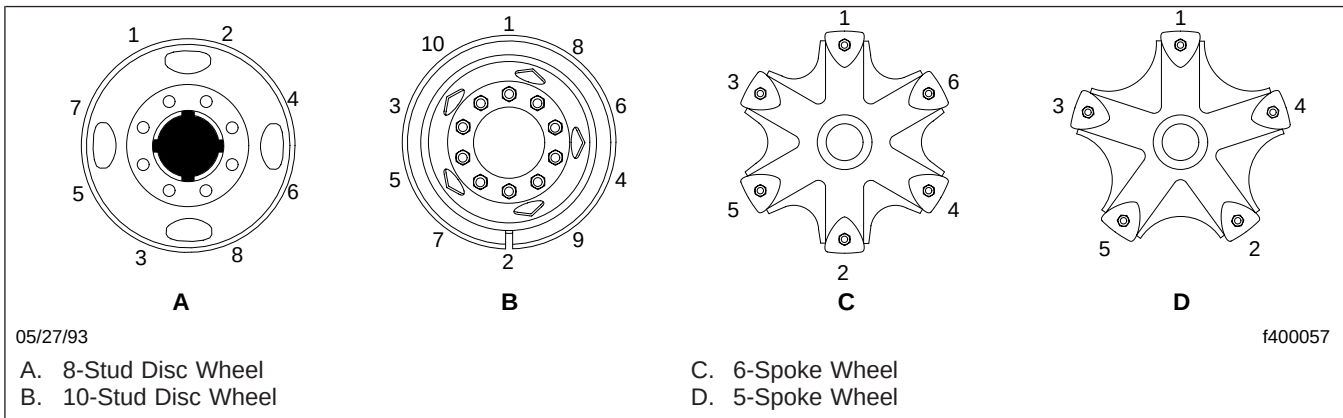

Fig. 1, Wheel Nut and Rim Nut Tightening Sequence
See Table 1, Table 2, or Table 3 for wheel nut torque specifications, and see Fig. 1 for the tightening sequence.
- Check that the yoke-strap capscrews (**Fig. 1**, Ref. 4) are tightened as follows: